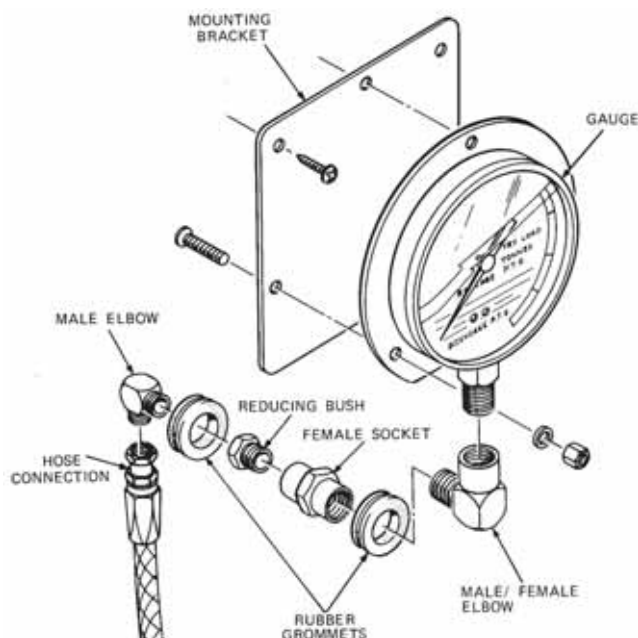

Figure 9 Load Indicator Gauge and Fittings
20. Removal. Remove the load indicator gauge (Figure 9) as follows: